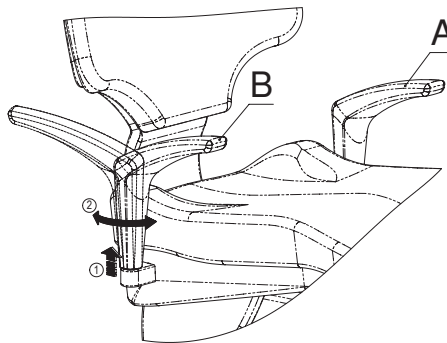

Fig. 17
To rotate the optional armrest (B), it must be pulled upwards (kept in its housing) until the rotation mechanism is released, allowing it to be turned until reaching the track limit where it stops. To return the armrest to its initial position, simply lift it and turn it inside until it locks automatically (Fig. 17).